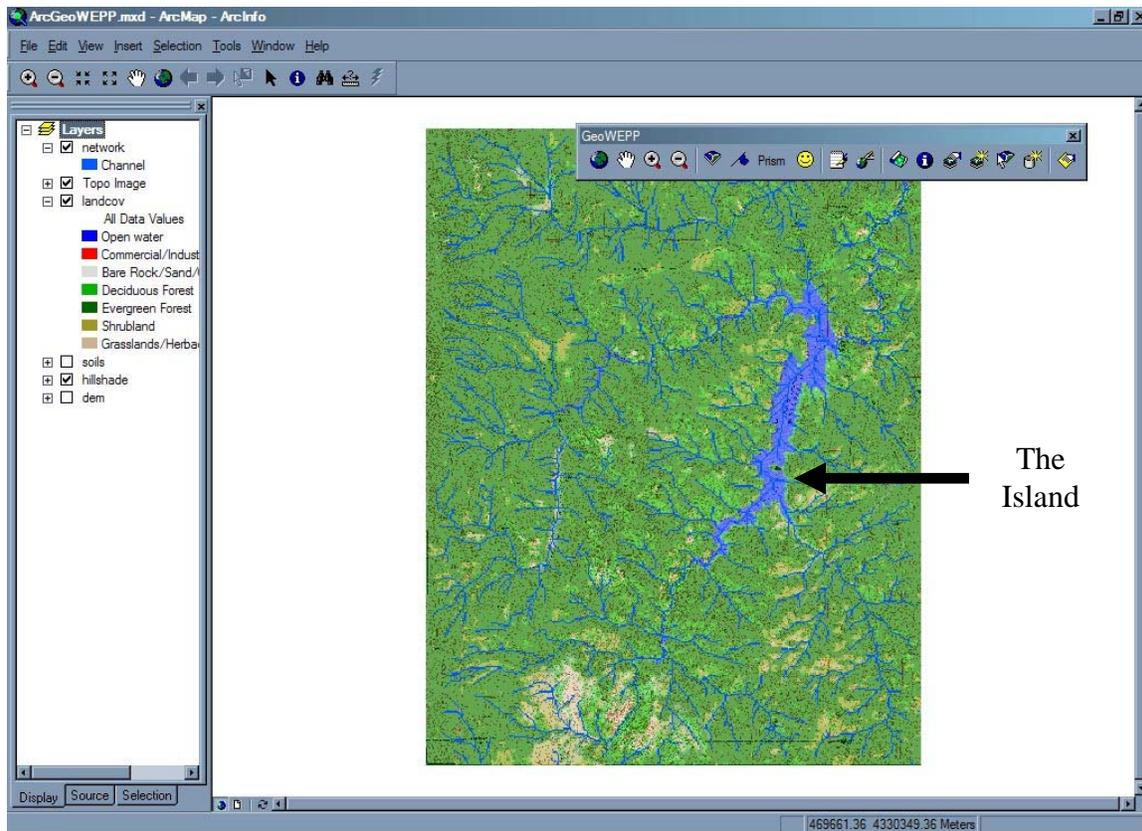

Figure 5 – All necessary data has been converted and loaded into ArcMap
1. We are interested in the network channels and the watershed that is next to **The Island** in Cheesman Lake (see arrow in Figure 5). Using the **Zoom In**  tool from the **GeoWEPP toolbar**, zoom into the area around **The Island**.